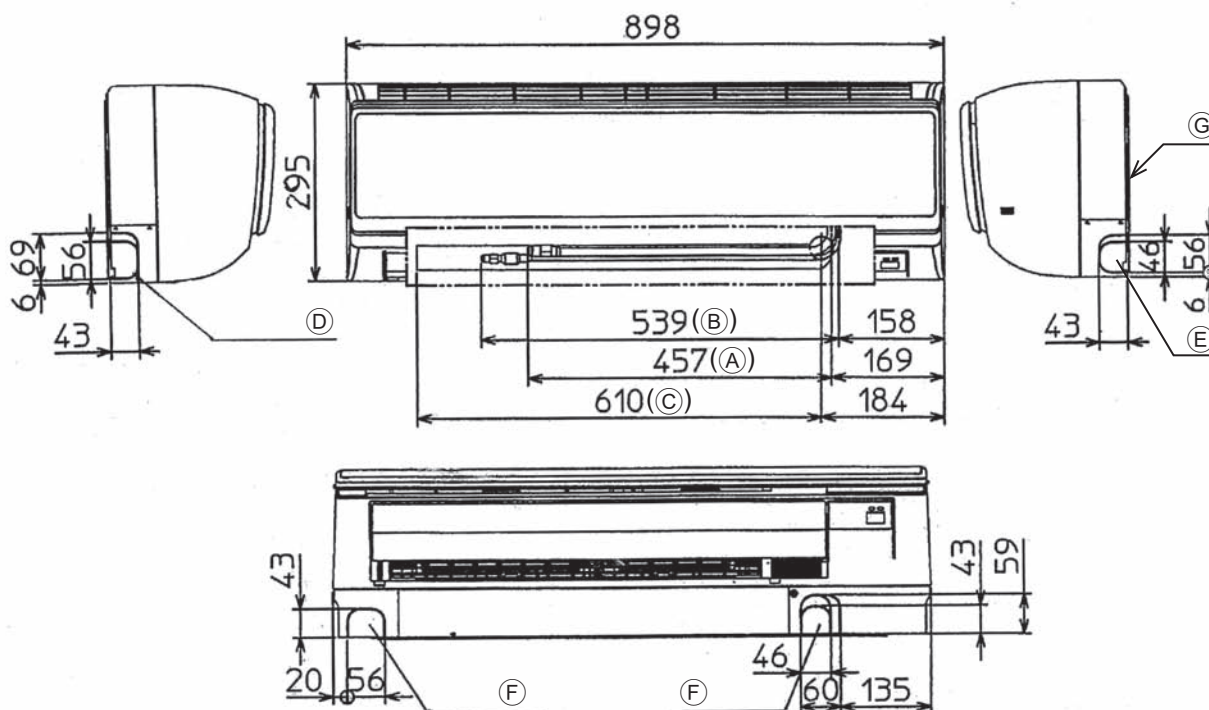
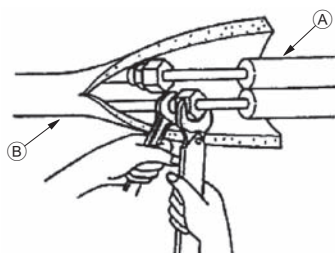

Fig. 4-2
Fig. 4-3
4.3. Positioning refrigerant and drain piping (Fig. 4-2)
- (A) Gas pipe
- (B) Liquid pipe
- (C) Drain hose
- (D) Left-side piping knockout hole
- (E) Right-side piping knockout hole
- (F) Lower piping knockout hole
- (G) Mount board ①
4.4. Refrigerant piping (Fig. 4-3)